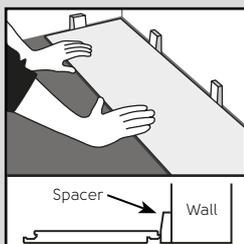

Fig. 1
1. Starting with a full plank along the wall, calculate how many plank widths there are across the room. If this means there will be a row of narrow planks along the opposite wall, cut the first row of planks accordingly. Install plank with tongue side/cut edge facing the wall, fit 5mm (3/16") spacers between the plank and wall (Fig. 1).